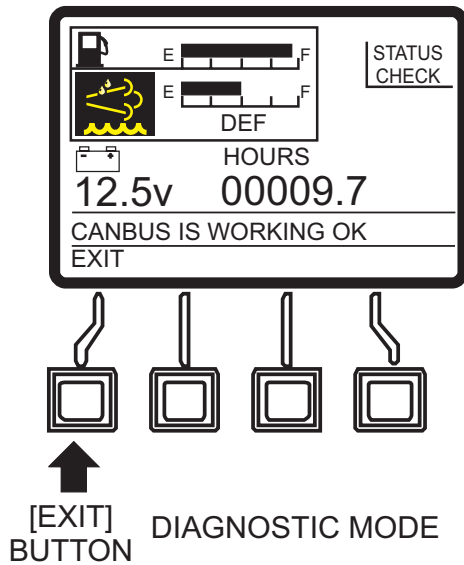

Figure 93. Status Check Screen (Diagnostic Mode)
2. Exit the Status Check screen by pressing the [EXIT] button (Figure 93).